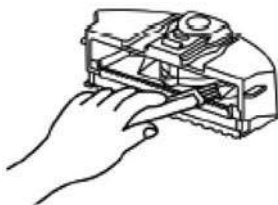

Figure 1
- 1) First dump the dust, and then clean it with Dust Brush (Refer to Figure 1).